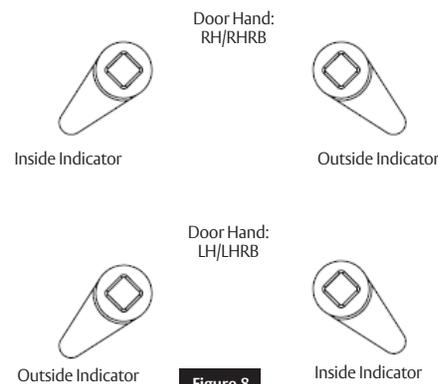

Figure 8
Next, verify inside and/or outside indicators are handed correctly using Spindle Cam Position chart. (Figure 8)
2. Position spindle cam in correct direction for door hand. (Figure 8)